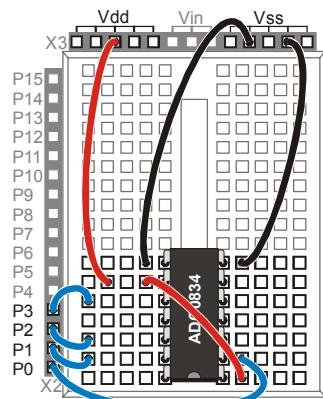

Figure 1-7
- ✓ Install the 14-pin ADC0834 DIP (Dual Inline Package) chip as show in Figure 1-7. Note that the DIP is oriented with the notch pointing down. This is done intentionally for reasons that will become clear shortly.